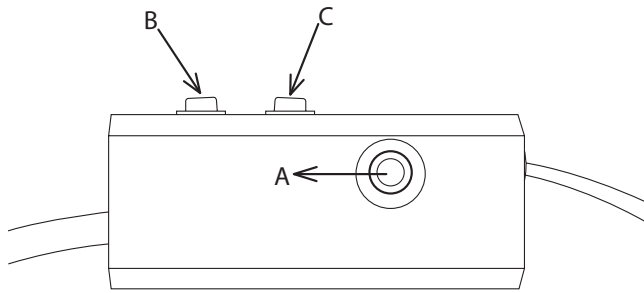

Figure 9
- Notice the circuit protector button on the control box of your tree stand (Fig. 9). This button will pop if there is an overload or short circuit situation. If this occurs, unplug the tree stand and any light sets plugged into the tree stand's electric outlets. Push the circuit protector button to reset. If the circuit protector pops again, this may indicate a short circuit. Contact Snow Joe Customer Service (1-866-766-9563) for service or replacement. If the button does not pop again, there may be an overload condition. Check to see that the number of light sets plugged into the stand does not exceed the 10 amp maximum allowed.